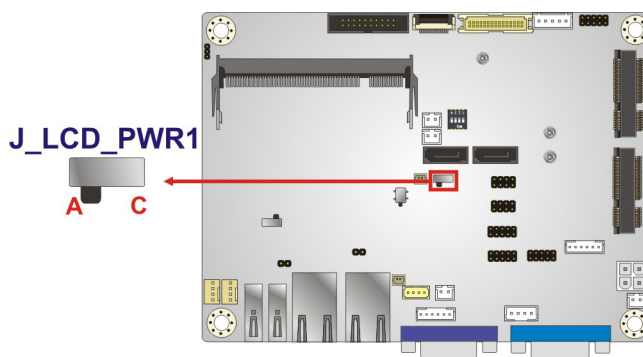

Figure 4-12: LVDS Voltage Selection Jumper Location
- Jumper Location: See **Figure 4-12**